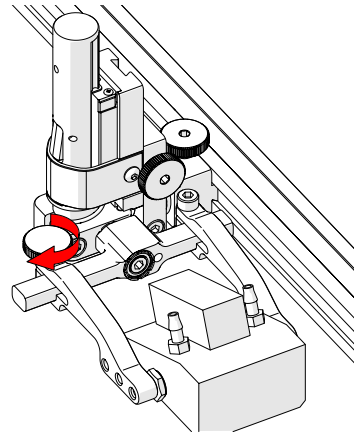

Fig. 147 - Tighten arm knob
6. Tighten the probe holder arm adjustment knob (Fig. 147).